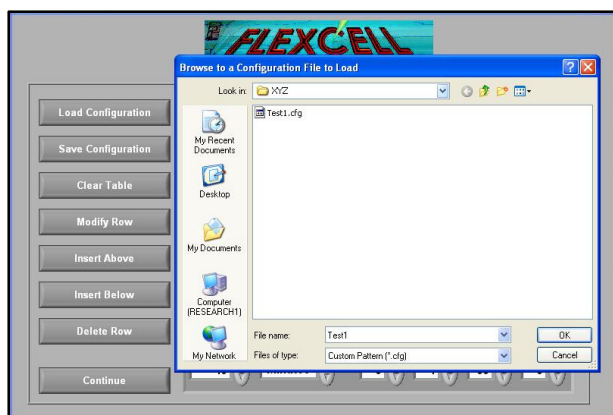

Figure 31. Opening existing regimen files.
1. When the user name is selected in the login screen (Fig. 27), the folder containing saved regimen files (Configuration files) will be opened as a popup screen (Fig. 31).
7. When all steps have been added, save regimen by clicking on *SAVE CONFIGURATION*. A folder with user's name as the title will be opened (Fig. 31).
1. For an existing user, when the name of the user is selected from the User list (Fig. 27), the folder containing all regimen files (Fig. 31) that belong to the user will open automatically.